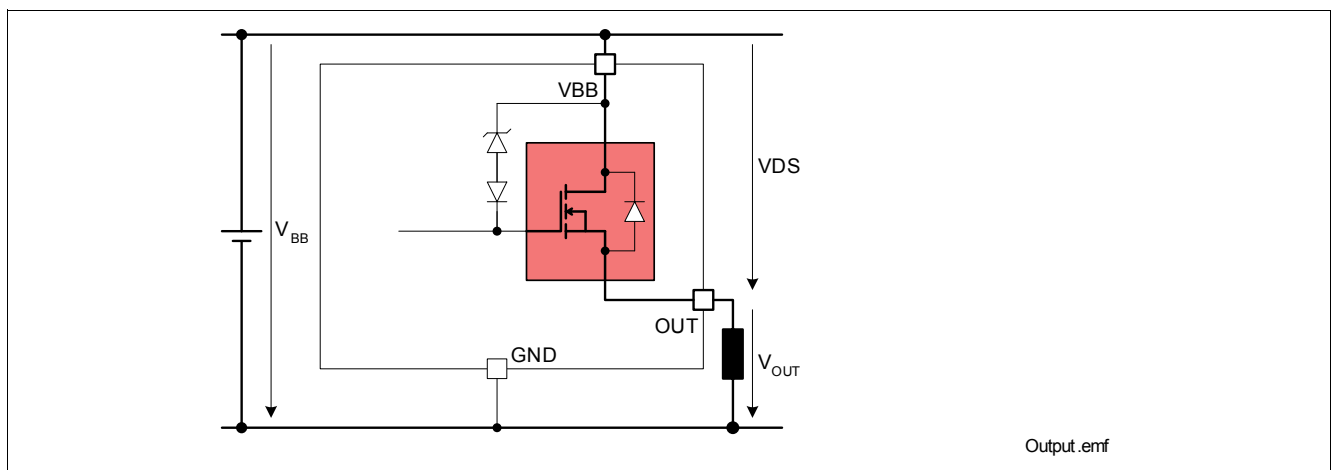

**Figure 5 Input Switch Matrix**
**Figure 5** shows the complete input switch matrix.